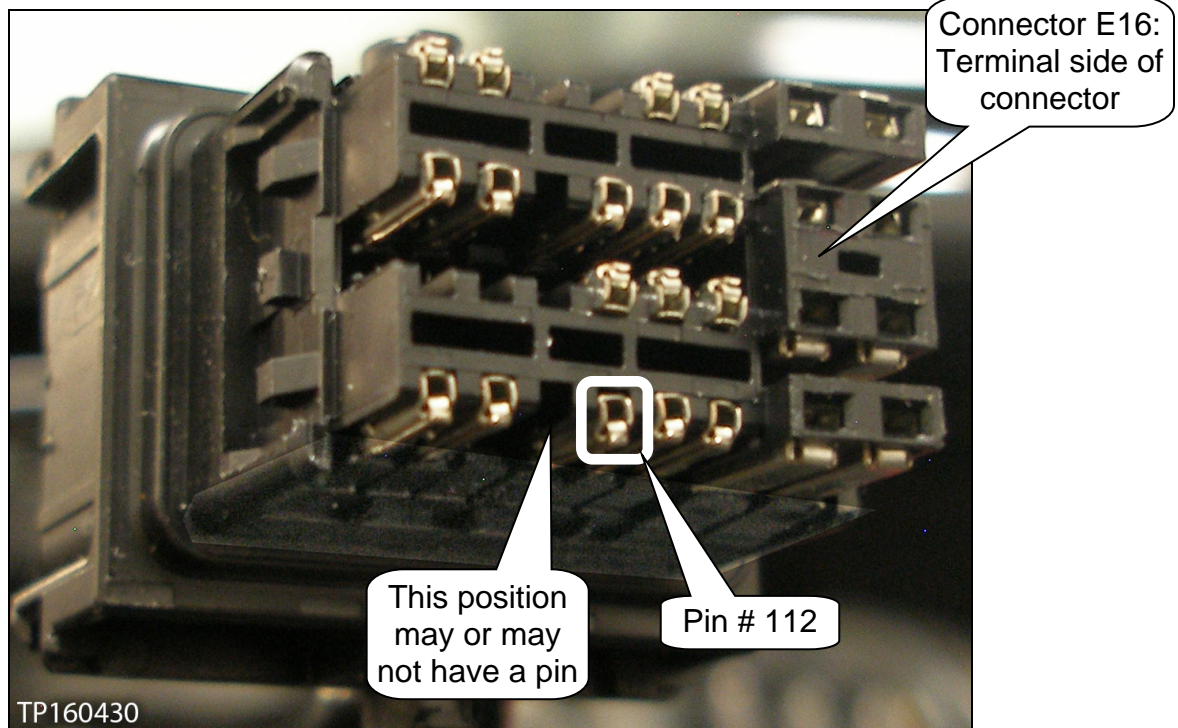

Figure 11
10. Locate terminal pin # 112 and its corresponding ORANGE wire in connector E16 (see Figure 11).